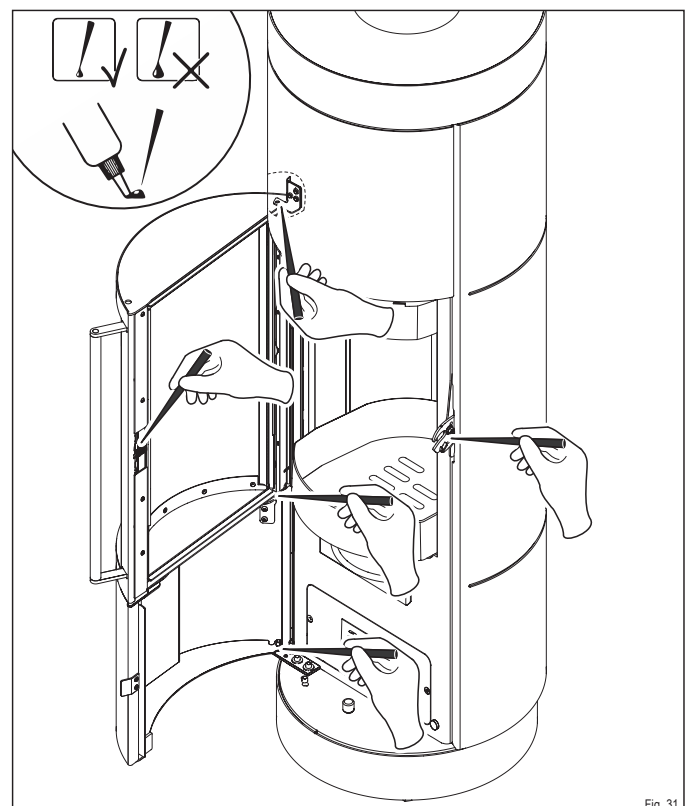

Fig. 31
- ▶ Lubricate the points with the speciality grease from the starter kit (Fig. 31).